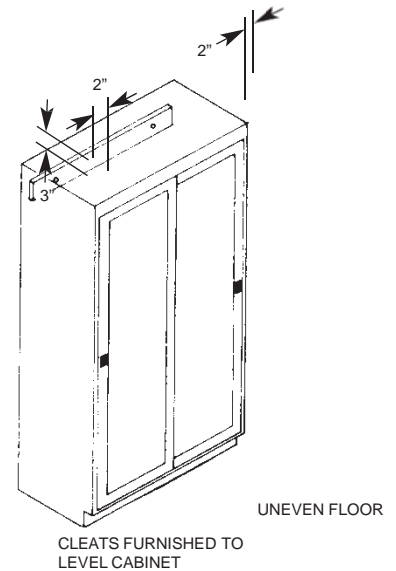

FIG. 7
2. Determine the exact location of cabinet and mark the desired location of the top left corner of the cabinet on the wall. Locate wood cleats 3" below and 2" to the right of this mark (see Figure 7).